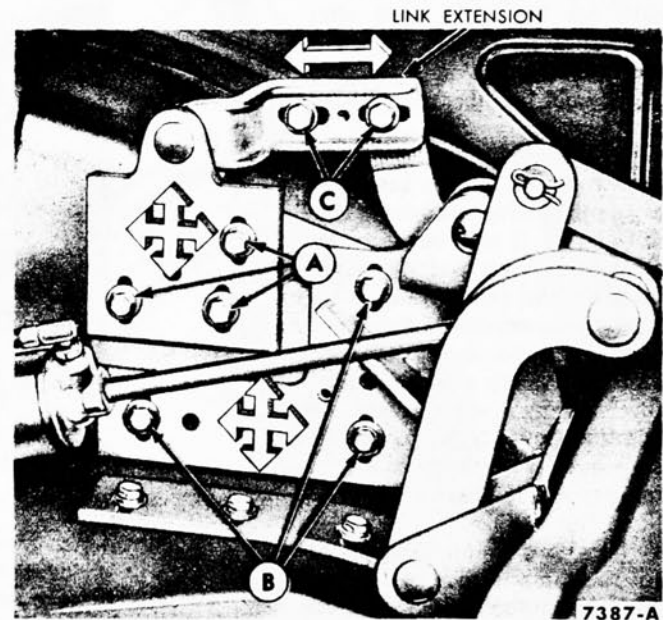

FIG. 4—Main Pivot Bracket Adjustments
Loosen the bolts marked "C" in Fig. 4, and adjust the serrations to get a snug fit between the rear quarter window and the intermediate side
1. Loosen the bolts marked "A" and "B" in Fig. 4.